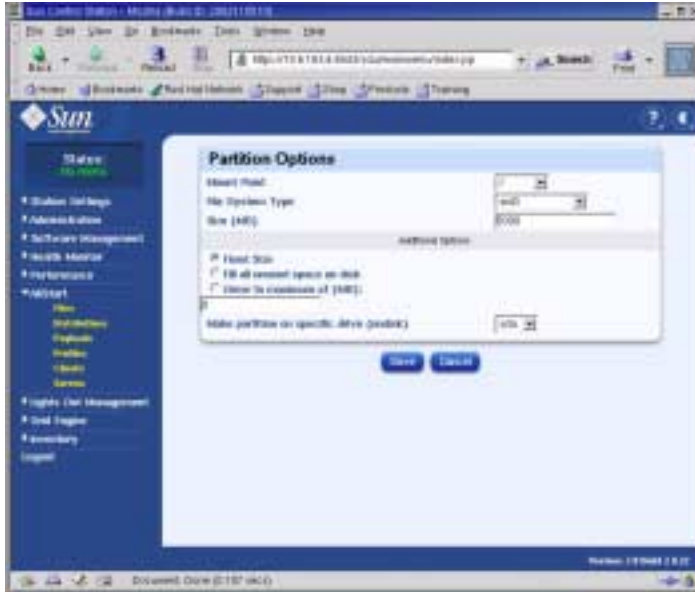

FIGURE 2-12 Partition Options Definition Window (AllStart Profiles)
- ii. Create your first disk partition by defining the partition parameters, then click Save when you are done. See FIGURE 2-12 for an example.